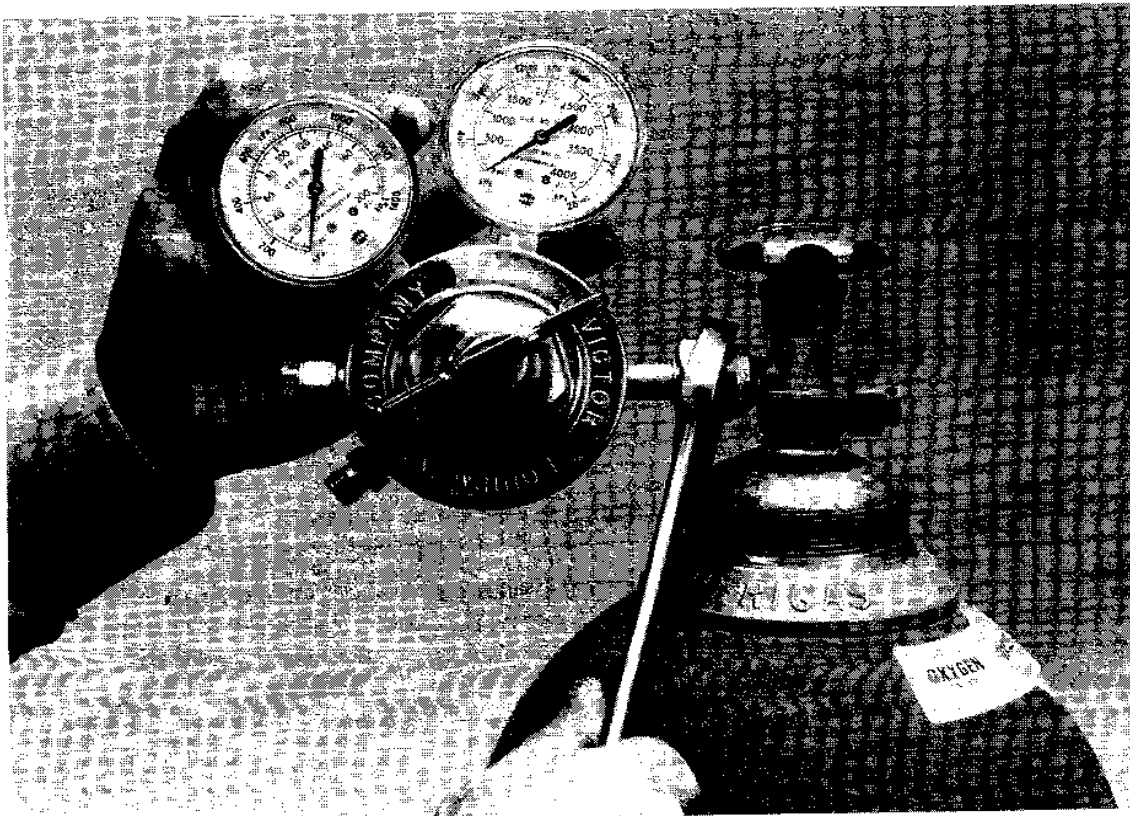

Figure 10, Tightening the Regulator
3. Attach the oxygen regulator to the oxygen cylinder valve. Tighten securely (see Figure 10).
4. Attach the fuel gas regulator to the fuel gas cylinder valve. Tighten securely in the direction necessary for the particular fuel gas connection in use (see Figure 10).